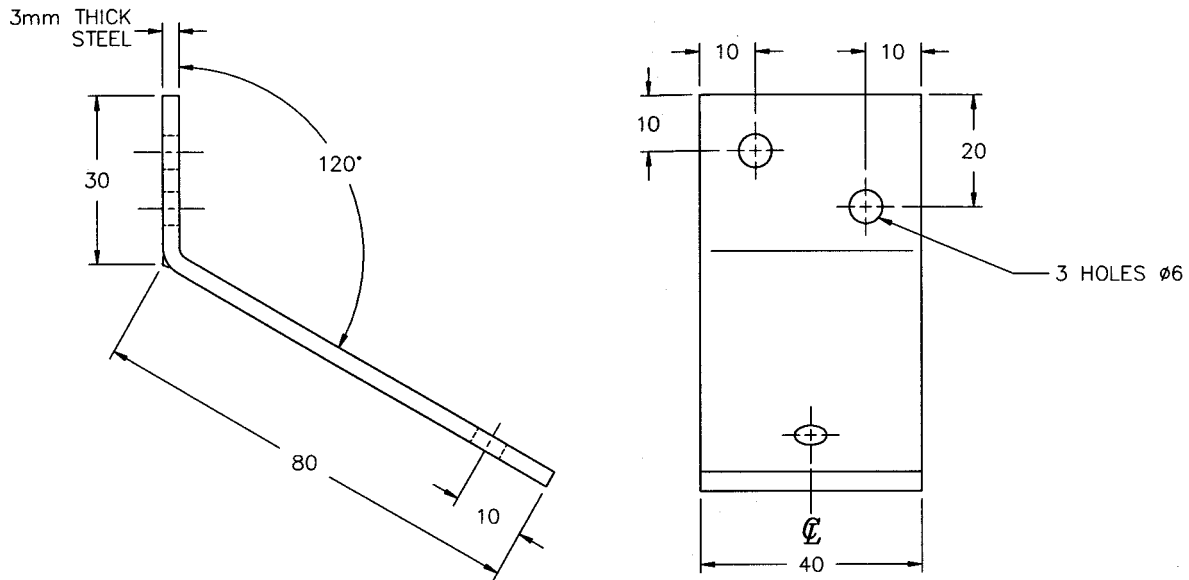

Figure 1 – Replacement Bracket, Blackout Headlamp Mounting
- a. Prefabricate the replacement bracket as shown in Figure 1 from the steel detailed as Item 1 in Table 1.